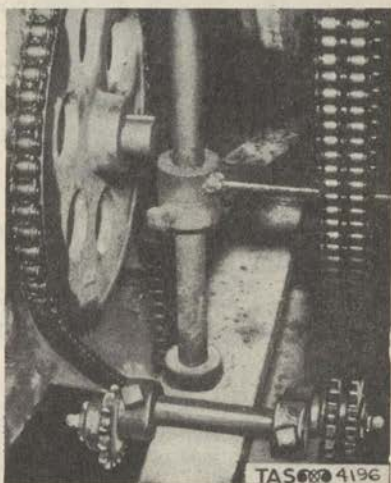

Figure 242. Chains and Tightener Sprockets.
(2) Chain drives. The chain drives must be oiled frequently. Proper care will increase the useful life of chains and sprockets. Use a good quality of oil, either S.A.E. No. 20 or No. 30, and apply with either an oil can or brush to the chains. For best results the oil should be applied to the inside of the chains just before they mesh with sprockets. Drip or brush the oil near the sideplates of the single-strand chain and on the centerplate of the double-strand chain. Do this every 4 hours of operation, or when not operated for 4 hours, once each day. After every 200 hours of operation chains should be removed and cleaned thoroughly with kerosene. After cleaning, submerge them in a pan of clean oil. The important thing is to keep chains free of dirt and abrasive particles and keep them well lubricated. The chain-tightener sprockets are each fitted with grease fittings which require greasing every 10 hours of operation. (Fig. 242)
rapid wear is caused. If chains are too loose they will climb the sprockets. Keep the chains adjusted at 1/2-inch to 1-inch slack, as illustrated. (Fig. 82) The chains are tightened by loosening the idler sprocket, (fig. 242) moving it toward the chain and tightening. Sprockets must be kept in proper alinement. Check with a straight edge if the teeth of the sprockets show signs of wear on one side.